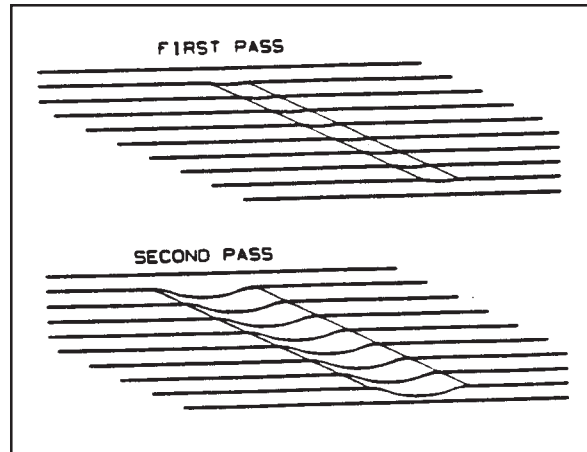

Figure 14
1. DRUM MARKS...are caused by the operator lowering the drum to the floor without forward traverse. These marks should be removed by cutting at a 45 degree angle to the mark. Cutting at the mark while maintaining the same path will only increase the mark depth and width. (See figure 14)